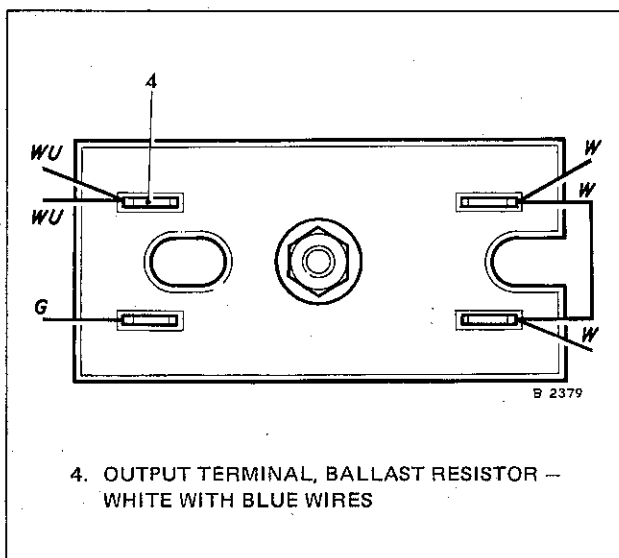

Fig. 3 Checking continuity of the ballast resistor
1. With correct supply voltage established at the inputs of the resistors, connect the voltmeter positive lead to the output terminal of the ballast resistor—the terminal with white and blue wires (4, Fig.3).